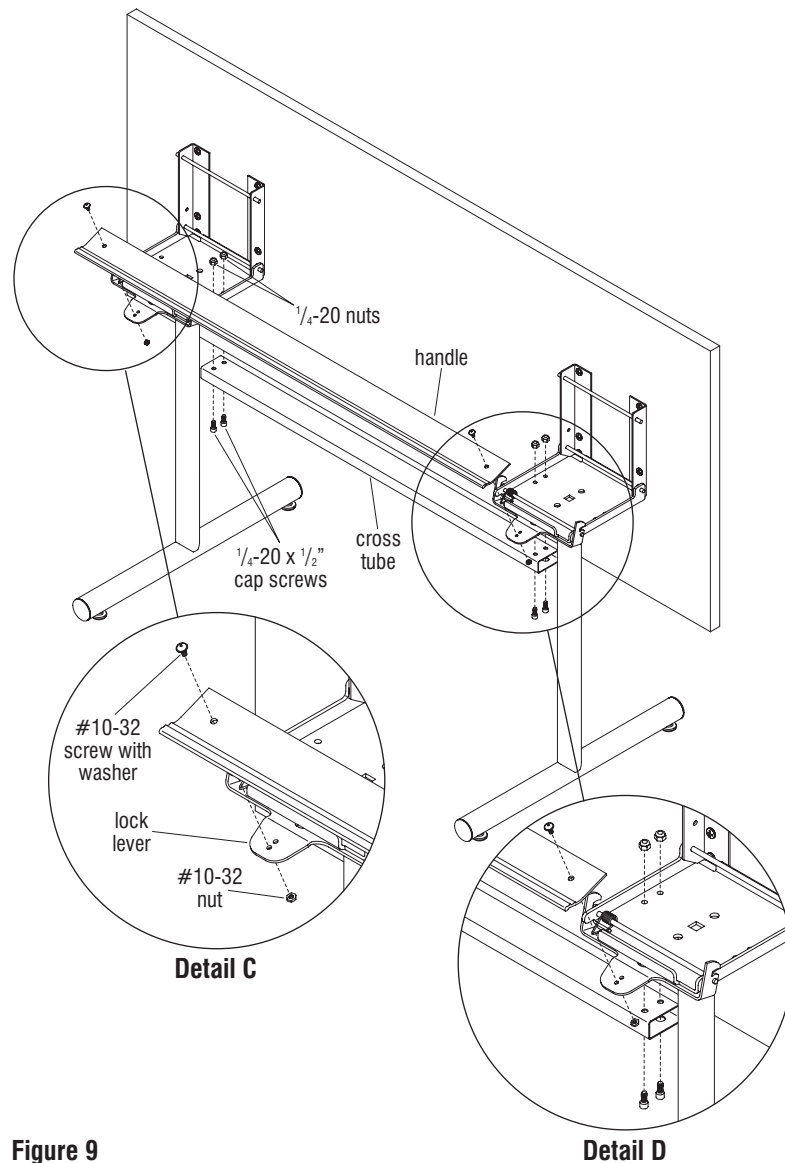

Figure 9
6. With table upright, disengage flip mechanisms and flip table top up until it stops (Figure 9).